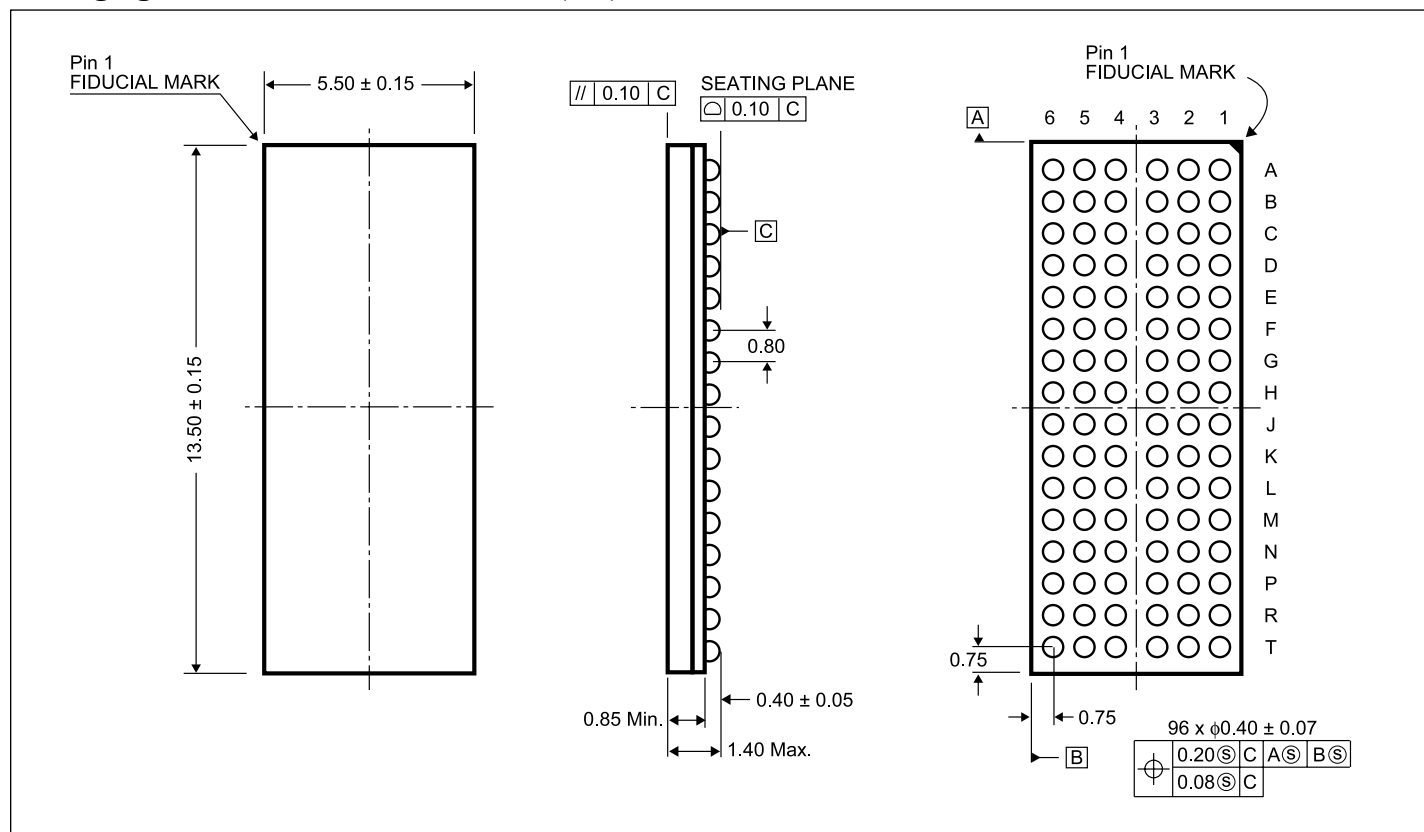

**Figure 2. Output Slew-Rate Measurement Information ( $V_{DD} = 1.8V \pm 0.1V$ )**
**Output Edge Rates** Over Recommended Operating Free Air Temperature range (See Figure 2)